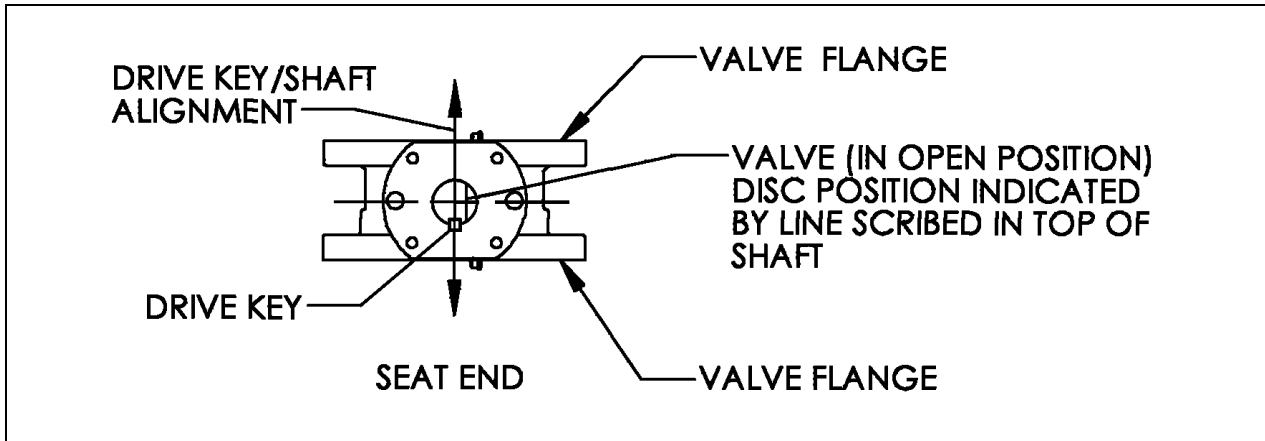

Figure 3 – Valve Open Position
- Turn the handwheel, chainwheel or 2" wrenching square operator so the drive key/plug alignment is parallel to the valve flanges. See Figure 3 for valve open position.